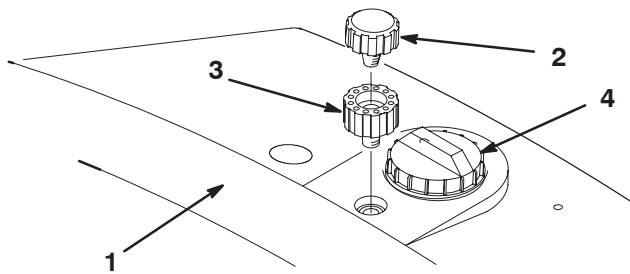

Figure 8
1. Remove the breather cap from the hydraulic reservoir (Fig. 8).
2. Thread the breather extension into the reservoir (Fig. 8).
3. Thread the breather cap into the breather extension (Fig. 8).